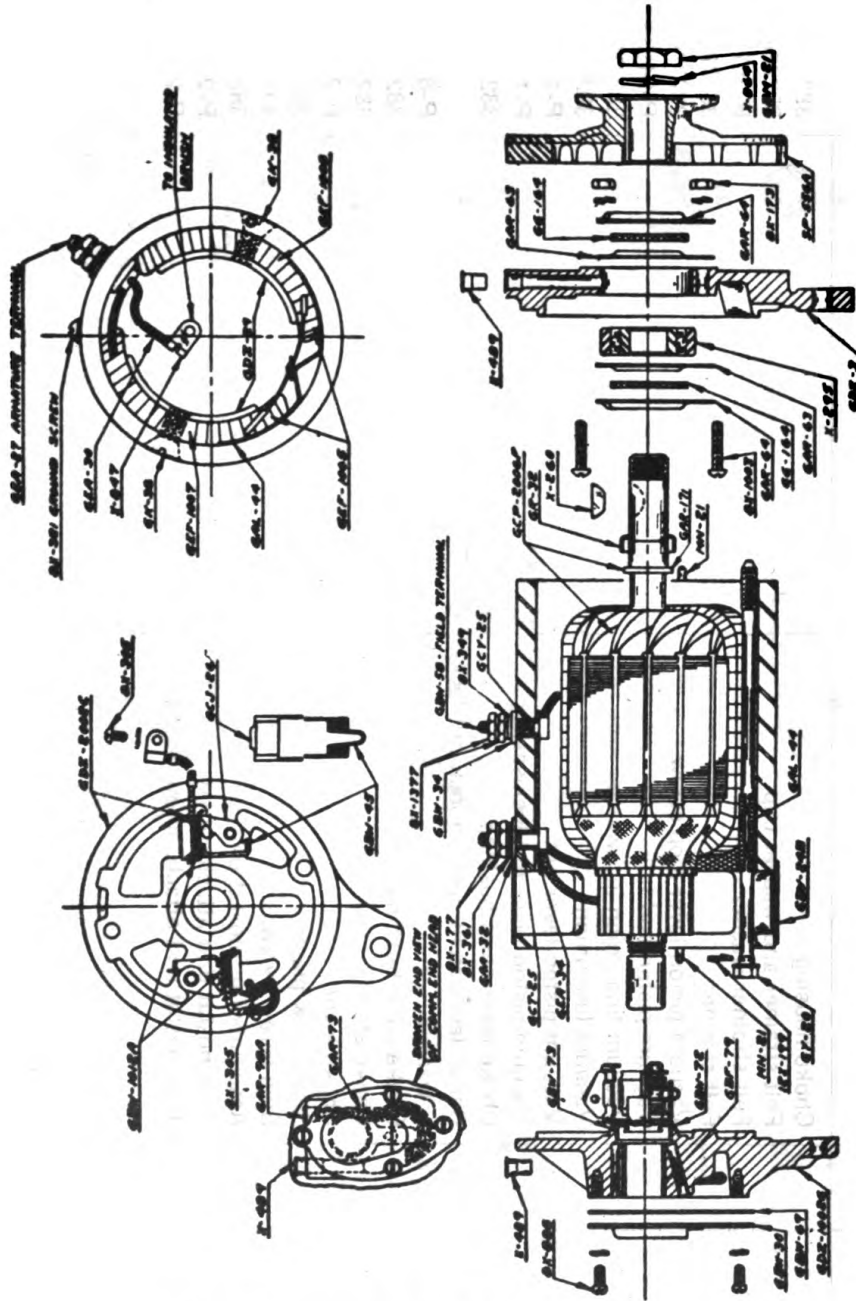

FIGURE 20—BATTERY CHARGING GENERATOR
g. Charging Generator (Figure 20).